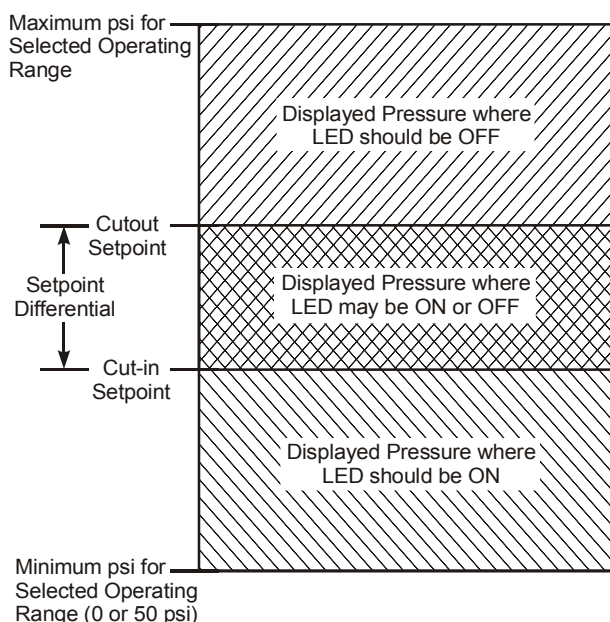

Figure 12: LED Status for Open-high Controls
The procedures outlined below change the cut-in and cutout setpoints and shift the setpoint differential so the displayed pressure is not within the Setpoint Differential range. Refer to Figures 12 and 13.
- e. (Refer to Figure 12.) **If the control is operating as an open-high control and:**
This procedure, in effect, moves the crosshatched areas shown on the graphs in Figures 12 and 13 above or below the displayed pressure, and forces the LED to go On or Off (and output relay to close or open) and verifies the control is functioning properly.